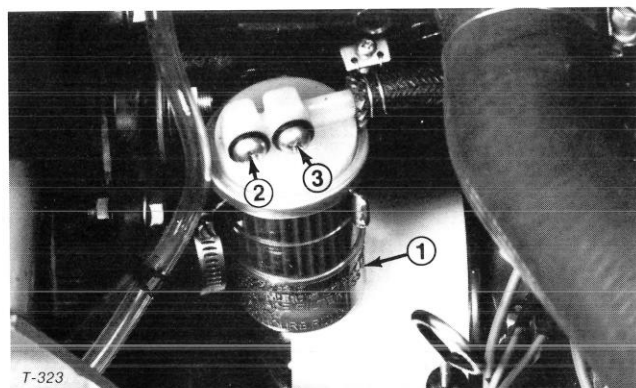

Figure 26
2. Loosen screw No. 1 nearest flywheel end of engine on top of fuel filter (Fig. 26).
4. Operate plunger on primer and observe filter and area around filter screw (Fig. 26, 27). Fuel should start to fill bowl of filter and finally begin to flow out around screw.
5. Continue working plunger until a solid stream of fuel flows out around screw. Turn first screw to closed position and open second screw (Fig. 26).